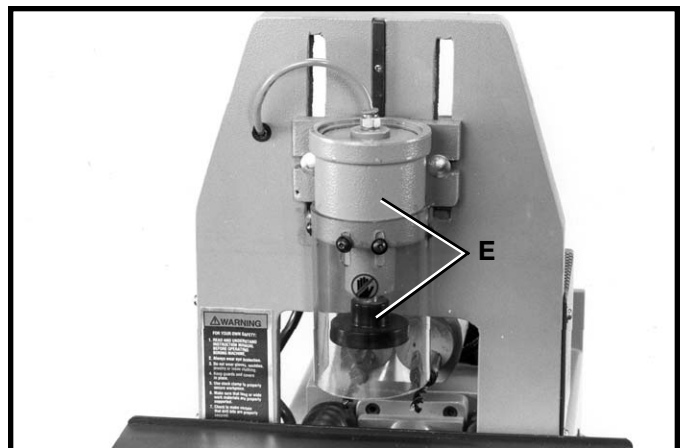

Fig. 29
4. If an adjustment is necessary loosen two carriage bolts (D) Fig. 29, and move holddown assembly (E) up or down as necessary. Tighten two bolts (D) Fig. 29, after adjustment is made. **NOTE:** Minor adjustments allowing for the workpiece, can be made by adjusting the table height.